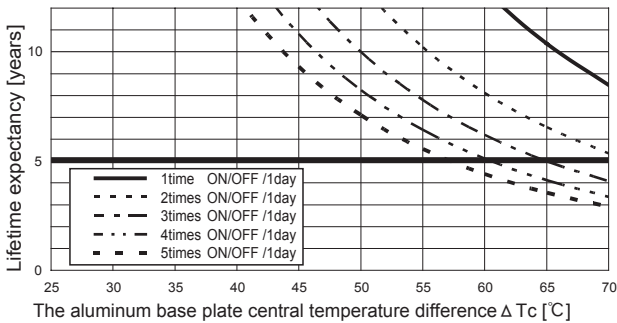

Fig.8.1 Lifetime expectancy against rise/fall temperature difference
■ Product lifetime expectancy depends on the aluminum base plate central temperature difference ( $\Delta T_c$ ) and number of cycling in a day is shown in Fig.8.1.